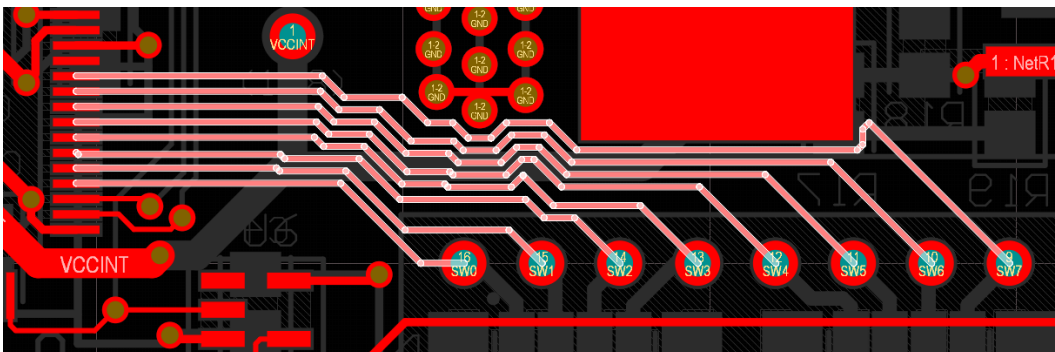

Figure 20. Results of pressing Tab to extend selection
43. With all of the tracks selected, as shown in the Figure 20 above, execute the Glossing Feature **Route » Gloss Selected** or press **CTRL + ALT + G**.